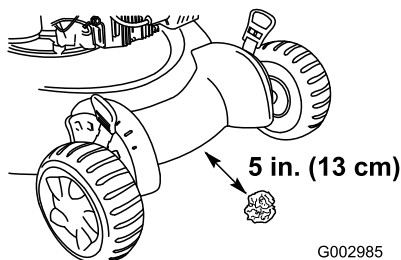

Figure 26
4. Place the newspaper ball about 5 inches (13 cm) in front of the mower (Figure 26).